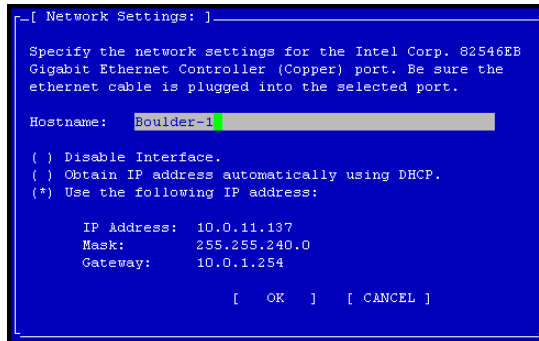

Figure 227. Entering the Host Name and Settings for an Interface
2. Tab to select the network interface that you want to configure and press Enter. The Network Settings window opens, shown in Figure 227.